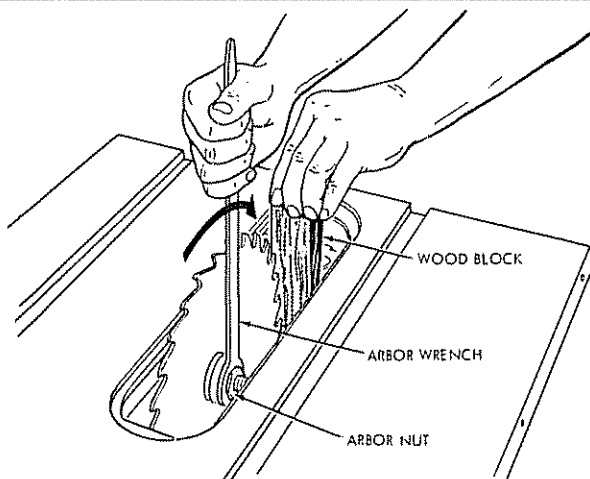

Figure 51
- b. Insert the wedge shaped wood block into the table opening at the rear of saw blade and tighten the arbor nut with the arbor wrench supplied with the saw. (See figure 51.) Remove the wood block.